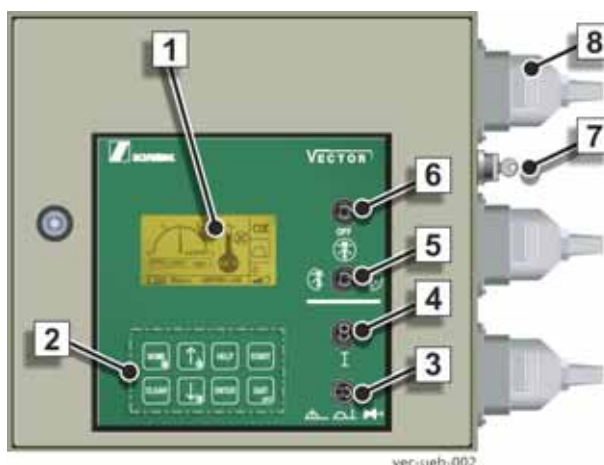

Fig. 94 Vector control cabinet
The messages are shown on the display of the VECTOR control system (1) (**Fig. 94**) and, in abbreviated form, on the display of the remote control unit, see “**Remote control**” on page 509.